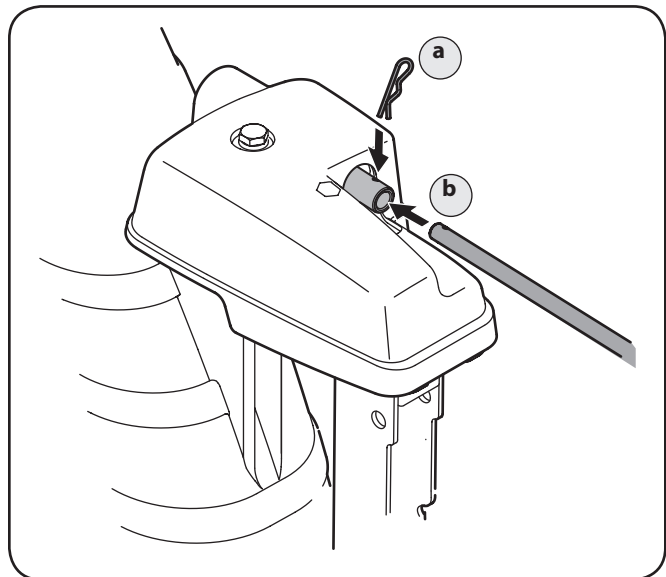

Figure 3-7
- Remove the cotter pin and insert the chute crank rod into the connector on the chute control assembly. See Figure 3-7.